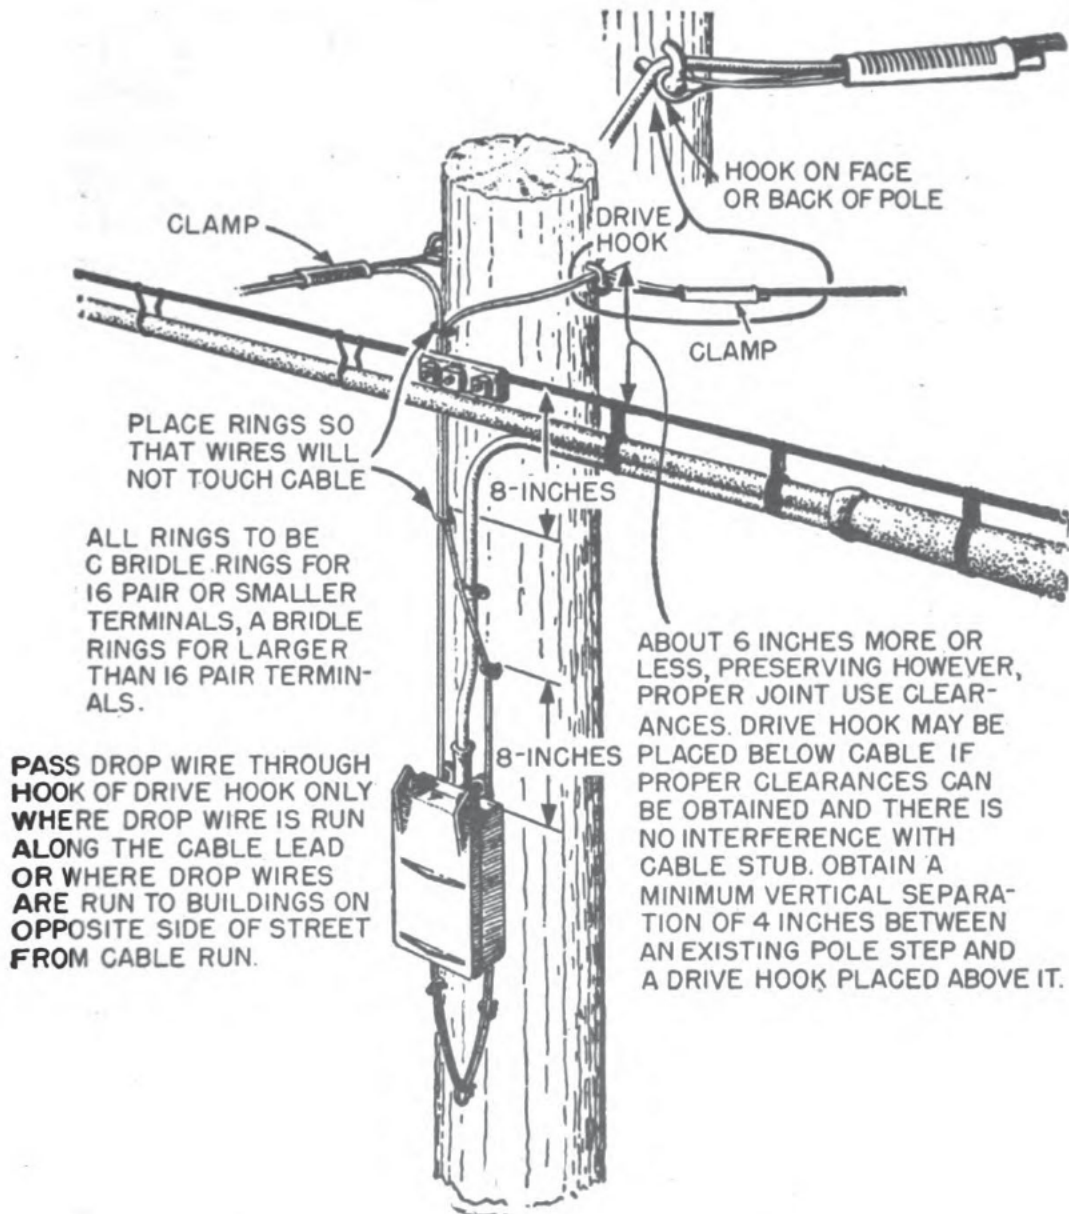

Figure 320.—Drop wire runs from a terminal box.
1. Place a hook attachment at the jumping-off point. A **DRIVE HOOK** is used if the drop wire leaves the side of the pole (figure 320). Where the drop wire takes off from the crossarm, use a **GUARDARM HOOK** (figure 319).
of the pole to the connecting point. Bridle rings are used to support the drop wires on the pole as shown in figure 320. Notice the arrangement of the rings just below the box. Can you guess why the drop wires are trained in this fashion before they enter the terminal box? Just in case you can't, here's